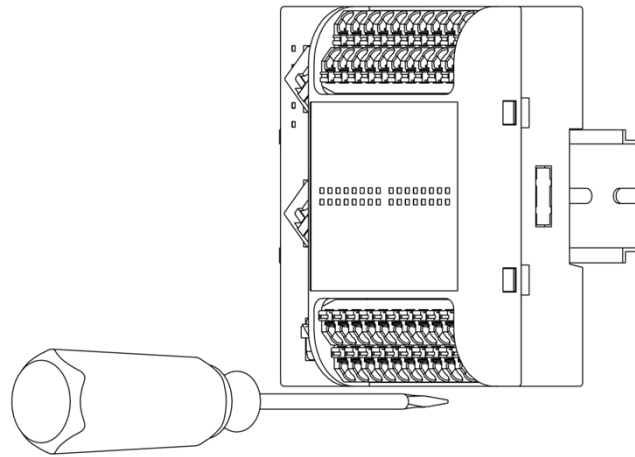

Fig.3-2 Installation of Module
2. Hang the module onto the DIN35 guide rail, and the lower guide rail buckle is pushed inside and locked with a slotted screwdriver as shown in Fig.3-2.